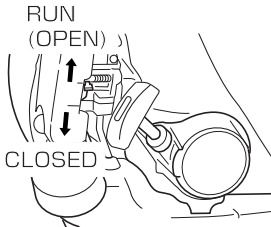

Fig. 6
2. Set choke lever to CLOSED position. (Fig. 6)